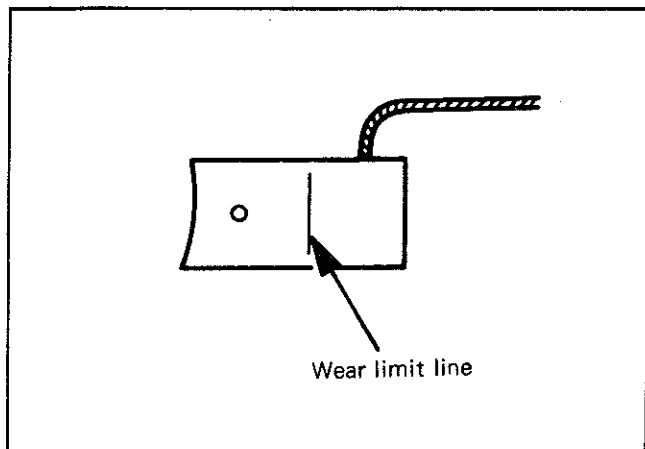

Fig. 13—Brush wear limit
(2) Replace brushes that have worn down to the limit shown in Fig. 13.